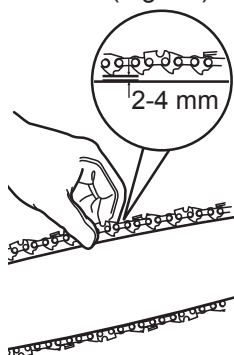

Fig. 12
- > Check the chain tension using one hand to lift the saw chain (3) against the weight of the product. The correct chain tension is achieved when the saw chain can be lifted by approximately 2 - 4 mm from the guide bar (4) in the centre (Fig. 12).